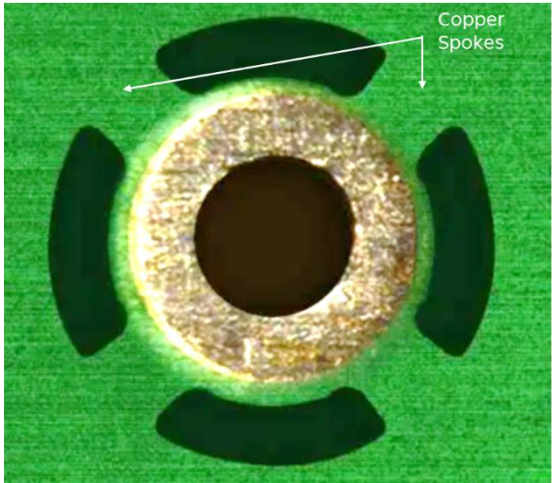

Figure 3-2 Thermal stress relief around the solder pad – referred to as “Copper spokes” in the PCB. 图 3-2 焊盘周围的热应力释放——在电路板中称为“铜辐条”。
- Solder pads: The recommended diameter of the solder pads on the PCB is 2 mm. For large area copper layers (power connections) it is mandatory to design a thermal relief to the copper pad (copper spokes) to minimize heat drain from the pad to the large copper area and improve see Figure 3-2.
焊盘：PCB 上焊盘的推荐直径为 2 毫米。对于大面积铜层（功率连接），必须设计热风焊盘连接（辐射状铜条），以最小化从焊盘到大铜面积的热耗散并改善焊接状况 图 3-2。